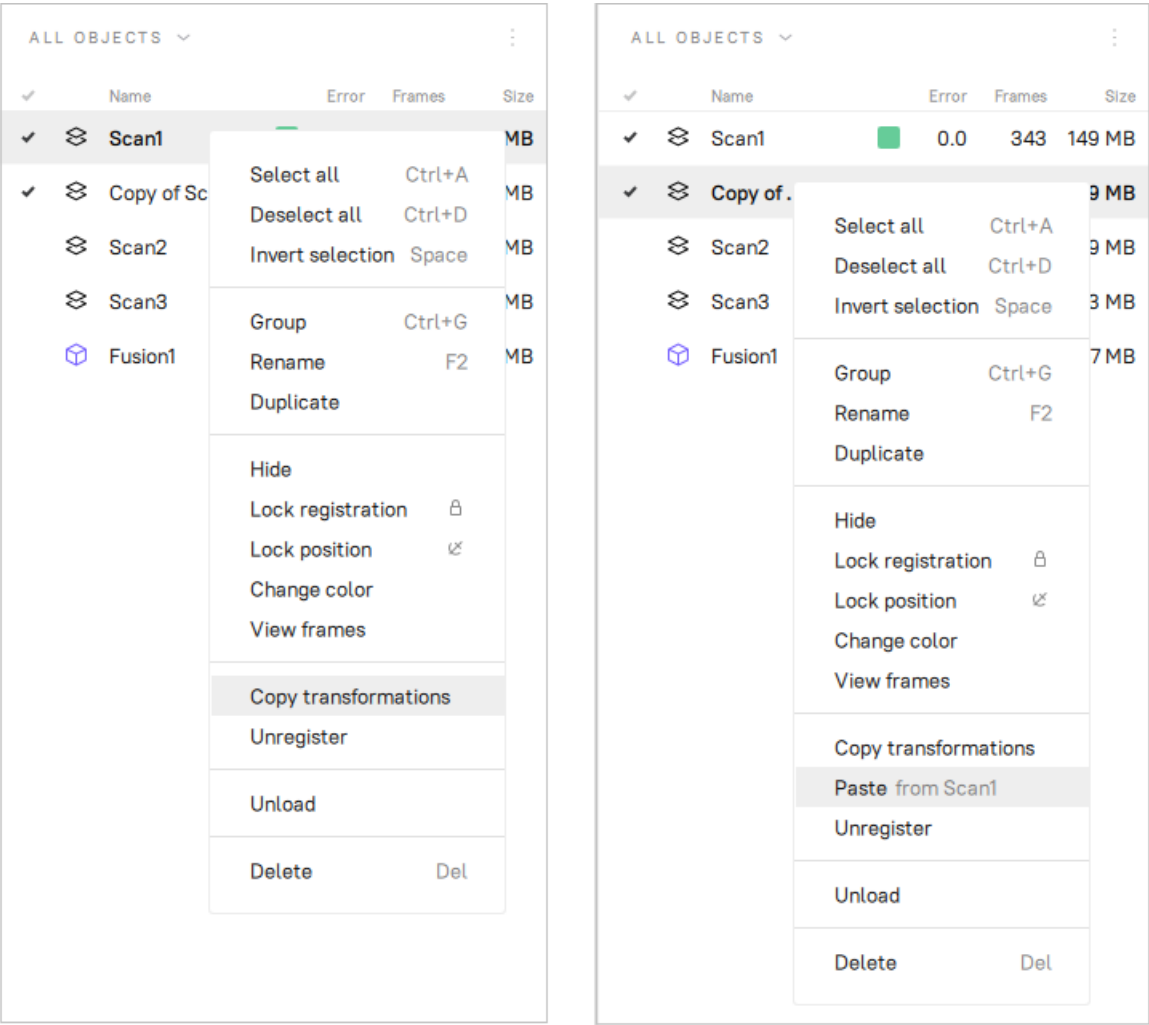

Figure 137: Transferring transformations: copying transformations (left) and pasting them (right)
1. In the Workspace panel, right-click the source scan and choose *Copy Transformation* from the context menu (see Figure 137, left). The transformations of the source scan and its frames will be saved.
3. Right-click the selected scan(s) and from the context menu choose *Paste from <source scan name>* (see Figure 137, right).